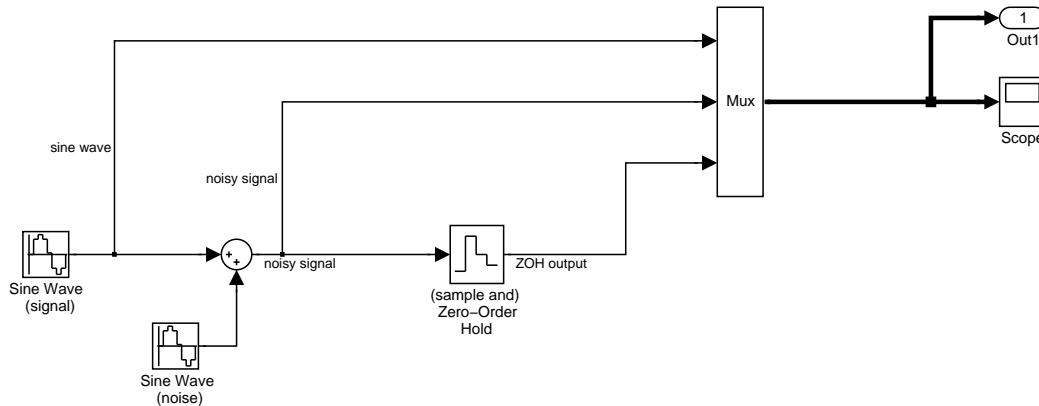

Figure 1: SIMULINK Model of Signal Reconstruction
- (c). Use the Matlab m-file “aliasing.m” and the SIMULINK model “noisy_signal.mdl”, shown in Figure 1, to compare the time responses of the clean signal, the signal contaminated with noise, and the reconstructed signal. Are the responses you see consistent with your analysis above? Explain.